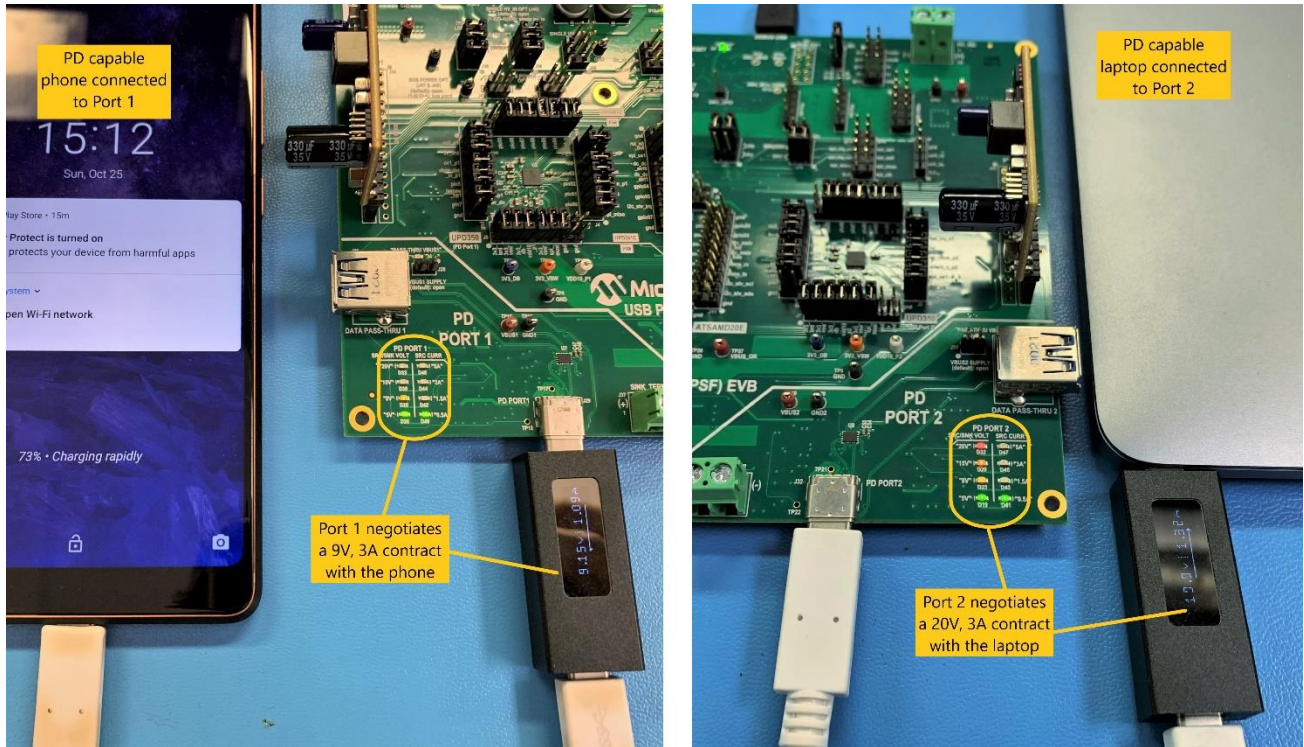

Figure 7.3 PDO Status LEDs after device attach
6. The status of PDO LED after attaching a USB PD Capable Phone in Port1 and a USB PD Capable Laptop in Port2 are shown in Figure 7.3